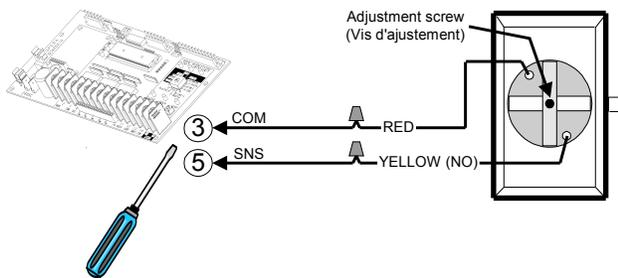
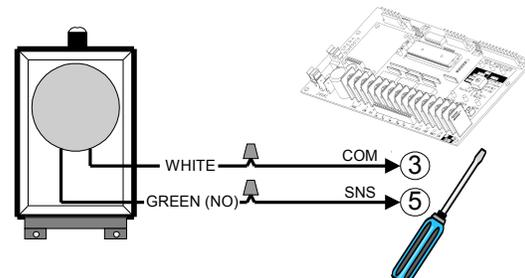

Figure 30 - AIRSWITCH 001 / 007
Figure 31 - AIRSWITCH 009
3. Use a coil cord or take-up reel to connect the air switch to the operator terminals. Install electric wires according to Figure 30 or Figure 31.